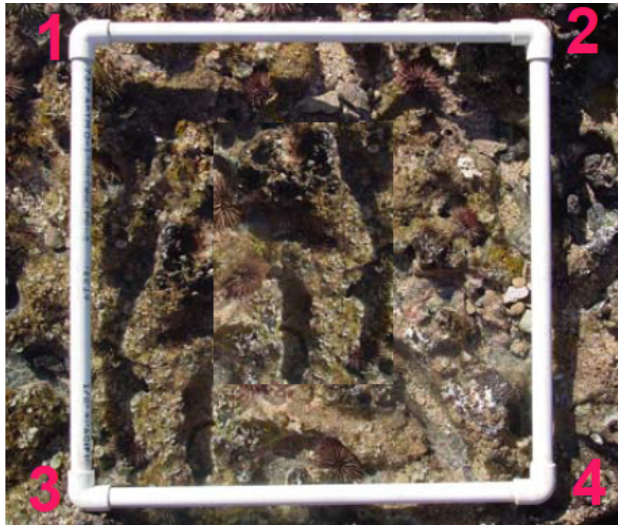

Figure 3. Cement opposite PVC corners together first
- i. Cement the two PVC pieces of opposite corners together, for example corner 1 and corner 3 in Fig. 3.
- ii. Cement corners 2 and 4 at the same time (Fig. 3). By gluing the two final corners together at the same time to complete the quadrat you will be able to twist the frame slightly to ensure it lies flat.